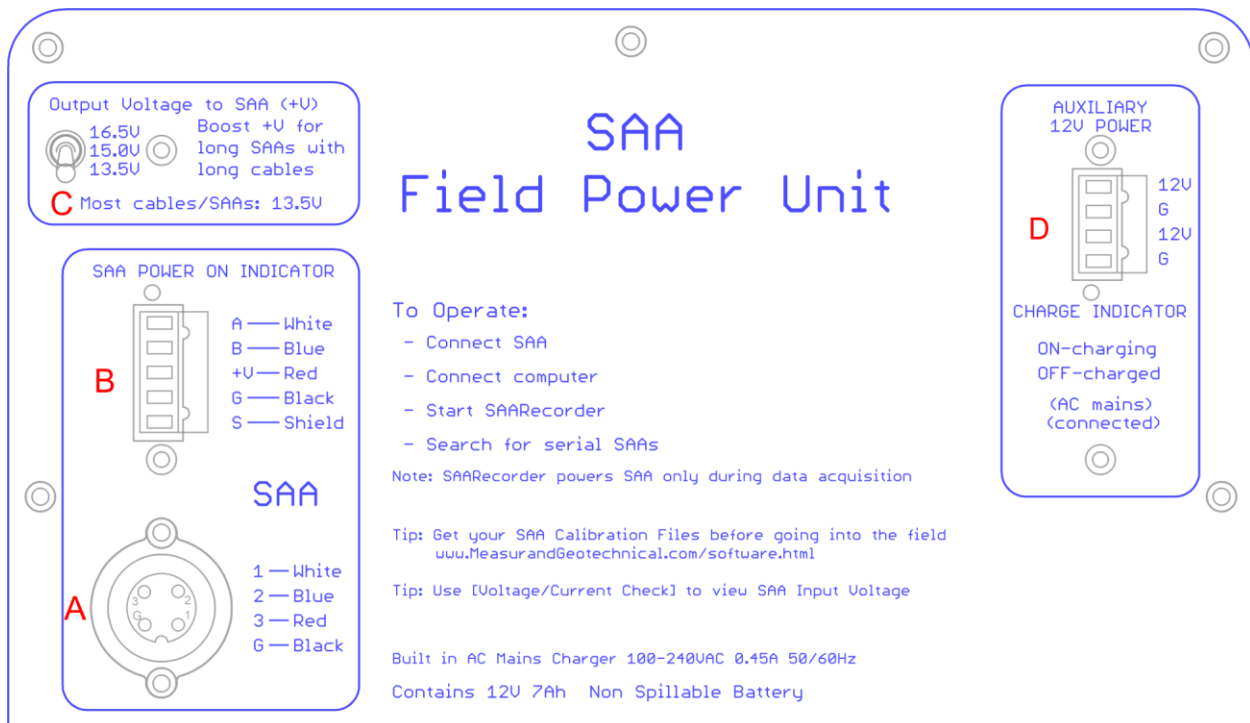

Figure 2.1 - SAA Field Power Unit Interface. (A) 4-pin circular connector, (B) 5-pin terminal block, (C) Voltage selector, (D) Auxiliary 4-pin terminal block.
The SAA Field Power Unit weighs approximately 4.85 kg (10.7 lbs) and is contained within a sealed yellow plastic shell measuring approximately 27 cm x 25 cm x 12 cm (10.7" x 9.8" x 4.8"). It contains a sealed 12 V, 7 Ah rechargeable battery which is used to power the SAA. Connection to an SAA is achieved via one of two connectors, either a 4-pin circular connector (see A in Figure 2.1) or a 5-pin terminal block (B in Figure 2.1). These connectors are internally connected to an isolated SAA digital interface with the following features: integrated power switch, surge suppression, and an SAA regulated DC:DC power selectable to 13.5 V, 15.0V, and 16.5V (C in Figure 2.1). The latter feature allows for the voltage to be increased, if necessary, for long arrays. An auxiliary 4-pin terminal block is included and can be used to power other equipment or to check the battery voltage (D in Figure 2.1).
For SAAs with a circular connector, connect the SAA directly via the 4-pin circular Connector shown in Figure 2.1 (A). In order to ensure a good connection, turn the connector until it is finger tight, and make sure that the gap between the connectors does not exceed 1 mm (0.04").
For SAAs without a circular connector, it is possible to connect the SAA to the SAA Field Power Unit via the 5-pin terminal block shown in Figure 2.1 (B). An SAA cable contains five different wires which are used for power (red and black), communications (white and blue) and shielding (bare wire). These are connected to the terminal block in the order shown on the face plate of the SAA Field Power Unit. To open and close the terminal blocks, use the small flathead screwdriver provided with the SAA Field Power Unit. Prior to connecting the SAA Field Power Unit to the computer, make sure that each wire is securely fastened into the block.